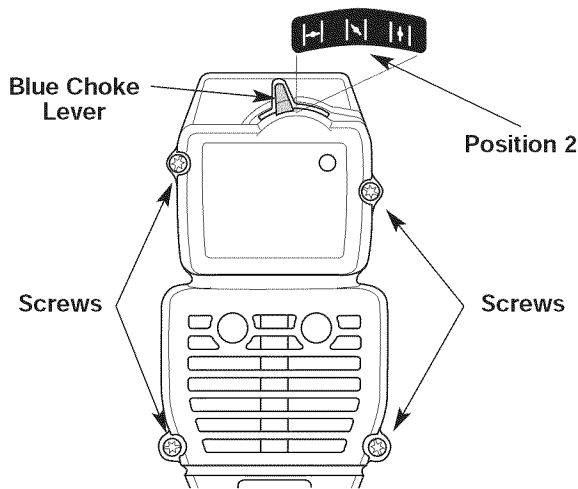

Fig. 23
- Remove the four (4) screws securing the air filter/muffler cover (Fig. 23). Use a T-20 Torx bit screwdriver.